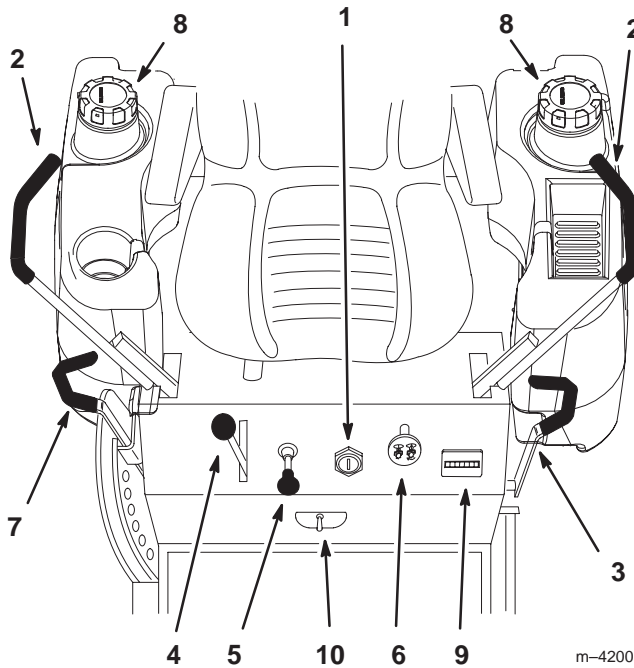

Figure 7
Become familiar with all of the controls (Fig. 7) before you start the engine and operate the machine.
1. Move the motion control levers (Fig. 7) out to the neutral lock position.